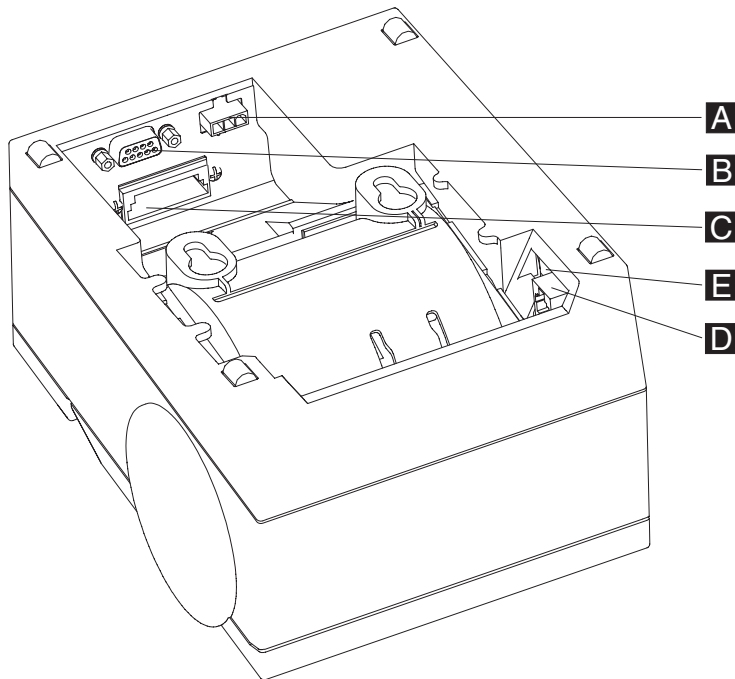

Figure 64. 4610 TF6 or TF7 printer connector locations
Figure 64 shows the 4610 TF6 or TF7 printer connectors.
3. Check the printer RS-232 mode-switch setting for the printer. It is near the rear cable connections. See **E** in Figure 64 for switch location. For switch settings, see the *IBM 4610 SureMark Point-of-Sale Printers User’s Guide*.